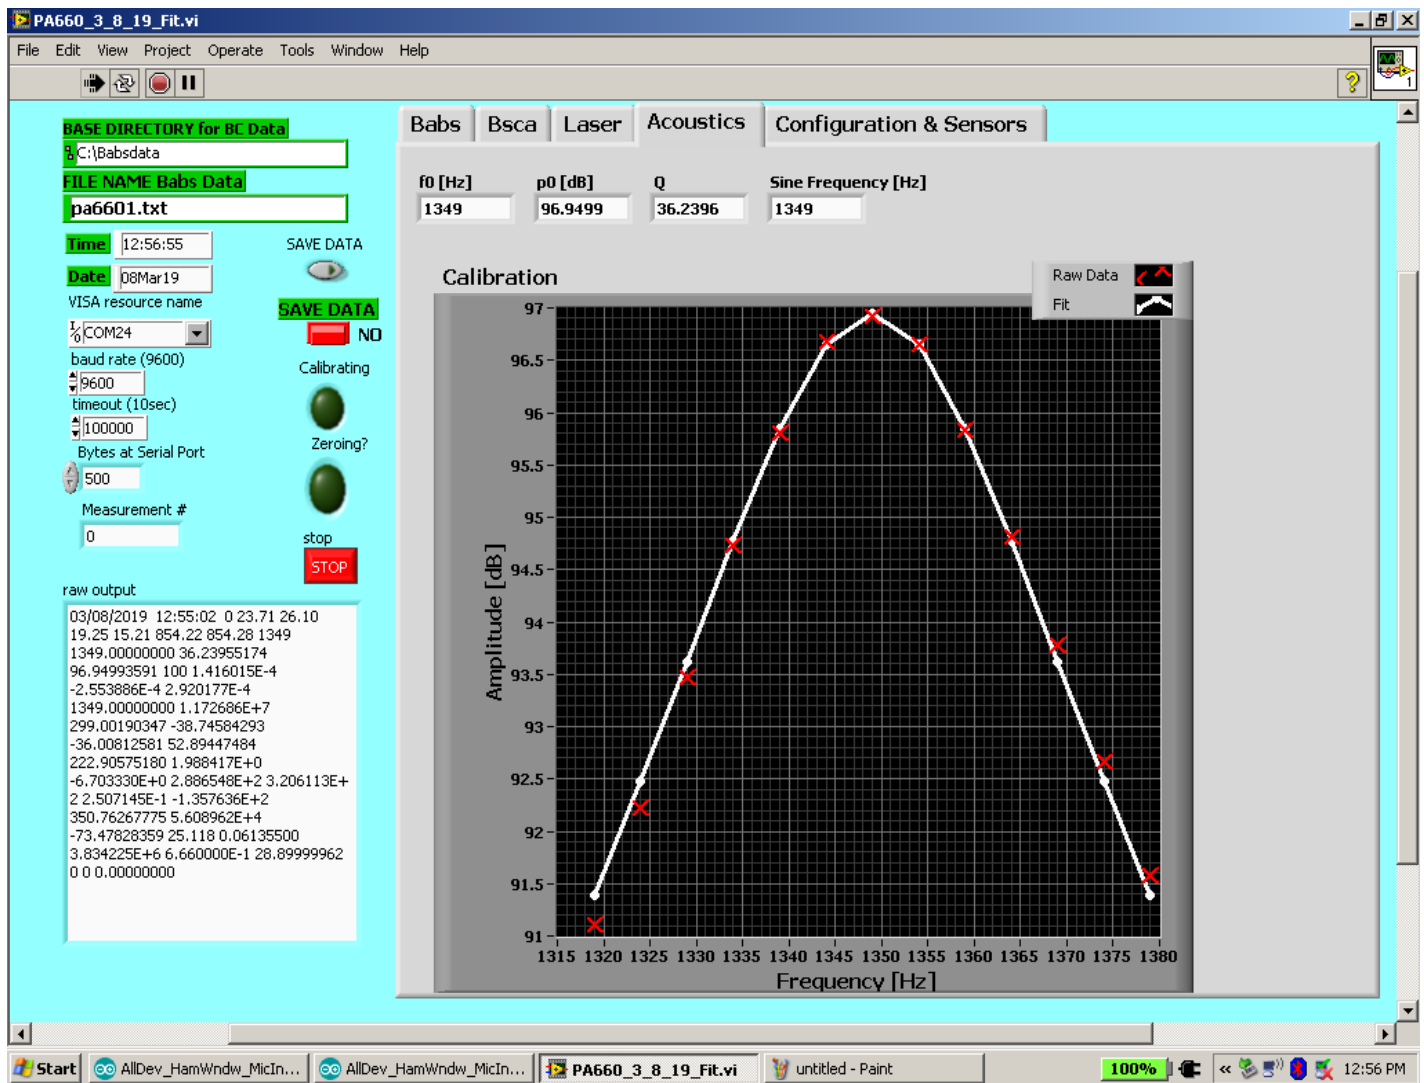

Figure 5. Screenshot of LabVIEW program to monitor and acquire data for PA660. The calibration resonance curve is displayed under the acoustics tab.
| Figure 5. Screenshot of LabVIEW program to monitor and acquire data for PA660. | 8 |
4. Open LabVIEW program entitled “PA660_4_19_19.vi” (or most recent version) on computer. An image of LabVIEW is shown in Figure 5.